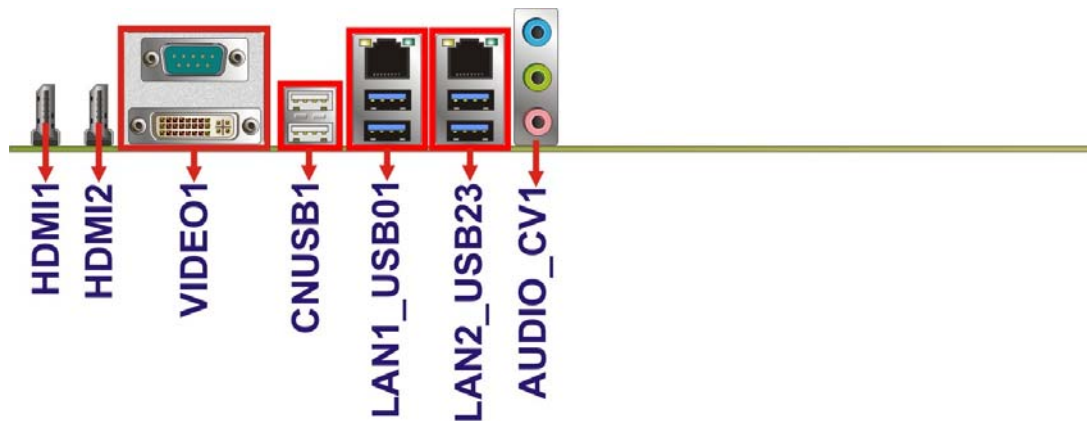

Figure 3-26: External Peripheral Interface Connector
CN Location: See **Figure 3-26**
- CN Location:** See **Figure 3-26**
- CN Location: See Figure 3-26
CN Location:	See Figure 3-26